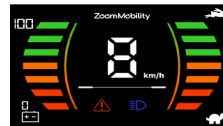

Figure 14: Key Switch (ON)
This meter (see *Figure 5 – Page 15*; and *Figure 14 – Page 22*) shows the amount of voltage in your Zoom Mobility's batteries.
4. Turn the key clockwise to the “ON” position. See *Figure 14 on page 22*.